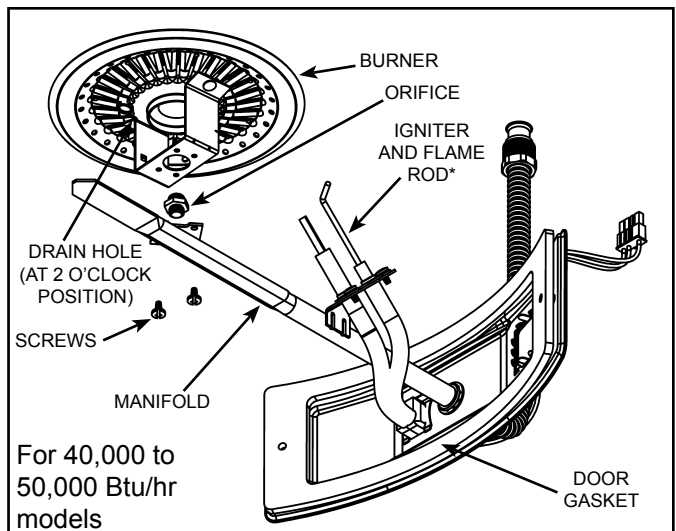

Figure 18
1. Burner may be hot. Wait until burner has cooled off. After noting the position of the condensation drain hole on the top of the burner, turn the inner door/manifold/burner assembly upside down. Using a Phillips head screwdriver, remove and retain the 2 screws attaching the burner to the manifold pipe (see Figure 18 & 19).
Care **MUST** be taken to ensure the burner is installed correctly on the inner door/manifold assembly. Position the new burner upside down with the orientation of the burner's condensation drain as shown in illustration (see Figure 18 & 19).
1. Burner may be hot. Wait until burner has cooled off. After noting the position of the condensation drain hole on the top of the burner, turn the inner door/manifold/burner assembly upsidedown. Using a Phillips head screwdriver, remove and retain the 2 screws attaching the burner to the manifold pipe (see Figure 18 & 19).
2. Using a ratchet with 1/2" socket, remove the burner's old orifice (**Note:** the burner orifices have different threads dependent upon the gas type. Orifices for natural gas have right-hand threads, orifices for L.P. have left-hand threads (see Figures 18 & 19).
1. Using a ratchet with 1/2" socket, install the new burner orifice (**Note:** the burner orifices have different threads dependent upon the gas type. right-handed threads for natural gas (turn clockwise to install) and left-handed threads for propane gas (turn counter-clockwise to install) (see Figures 18 & 19). **Note:** Determine whether the orifice is tall or short and DO NOT replace them with each other.
3. Align the screw holes on the inner door/manifold assembly. Using the two screws removed in step 1 above, installed the new burner to the inner door/manifold assembly (rotate the assembly to visually check the top portion of the burner assembly and confirm the orientation of the condensation drain hole as shown in the illustration) (see Figure 18 & 19).